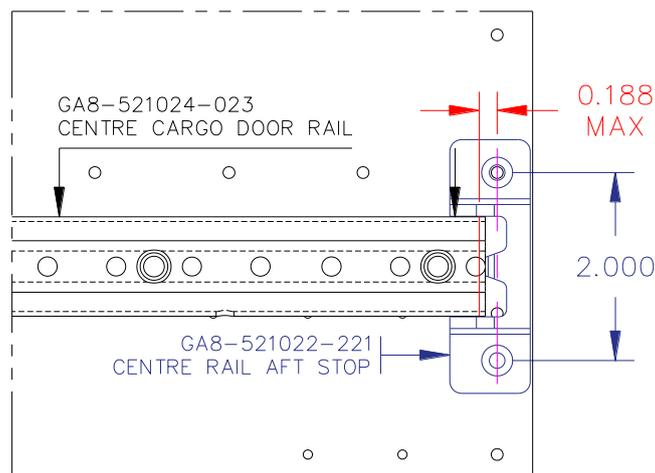

Figure 20: Maximum permissible trimming of the Centre Cargo Door Rail (GA8-521022-023). All dimensions are in inches.
5. Drill a hole 2.000", below the rivet location drilled out in PART D1, Step 3, as illustrated in Figure 20. The diameter of the hole should be between 0.165" (4.2mm) and 0.169" (4.3mm). The lower hole existing in the Centre Rail Aft Stop (P/N: GA8-521022-221) can be used as a guide to mark this location.
6. Trial fit the Centre Rail Aft Stop. If the centre tapered feature of the component overlaps with the Centre Cargo Door Rail, it is permissible to trim (or notch) the aft end of the Centre Cargo Door Rail to the maximum dimension shown by the red trim line in Figure 20 (i.e. 0.188" forward of the Centre Rail Aft Stop attachment holes). If trimming the of Centre Cargo Door Rail is to be conducted in situ, it is recommended that a thin piece steel sheet is placed between the fuselage skin and the Centre Cargo Door Rail, to protect the aircraft's structure during trimming.